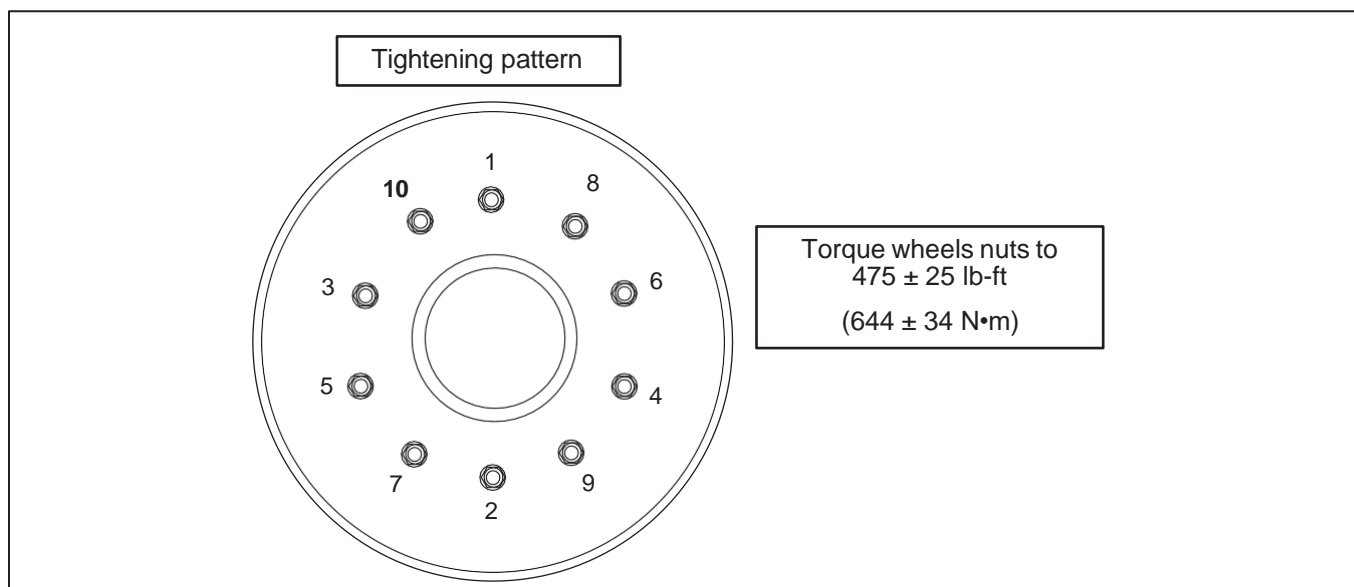

Figure 7 - Wheels Tightening Pattern and Torque Value
- 1.19. Lightly tighten the nuts so that the wheels are concentric with the hubs. See Figure 7 for the torque sequence.
- 1.20. Tighten the nuts progressively in the order shown in Figure 7 until the recommended torque is reached. See Figure 7 for torque value.